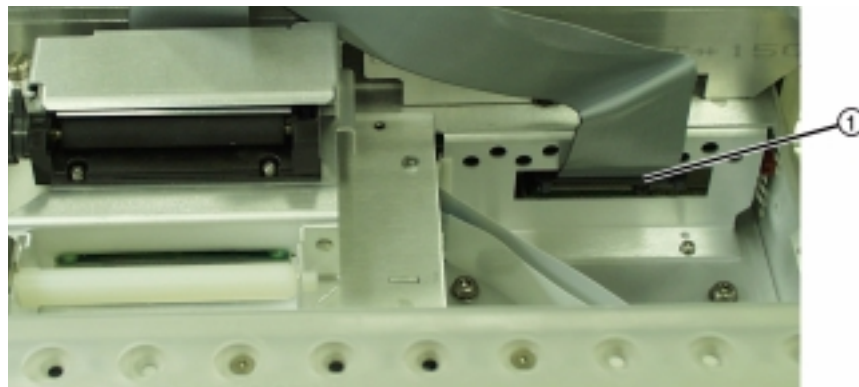

Figure 3-40. Disconnecting the printer ribbon cable from the mezzanine board
- 5 Remove the 44-pin ribbon cable from the mezzanine board. See ① in Figure 3-40 below.